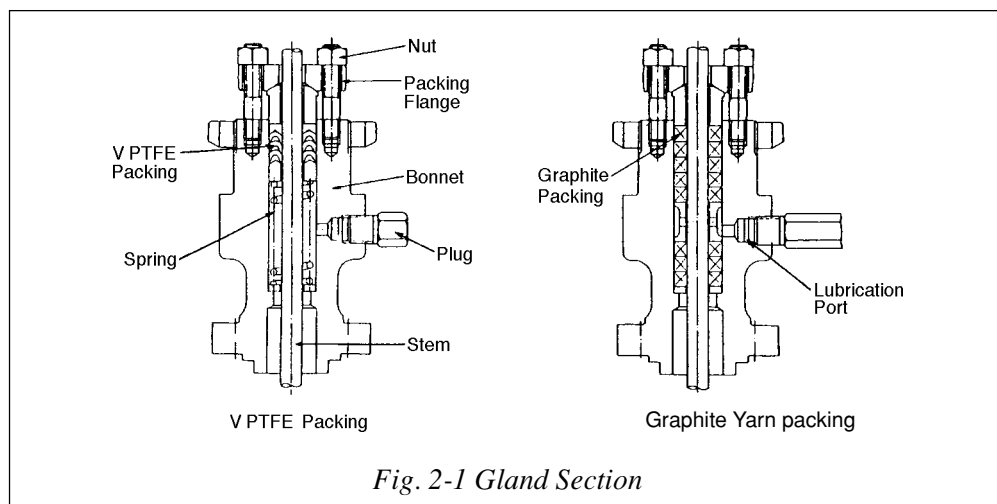

Fig. 2-1 Gland Section
- (5) Insert the gland packing into the gland. (See Fig. 2-1.)
- (6) Insert the gland packing into the gland. (See Fig. 2-1.)